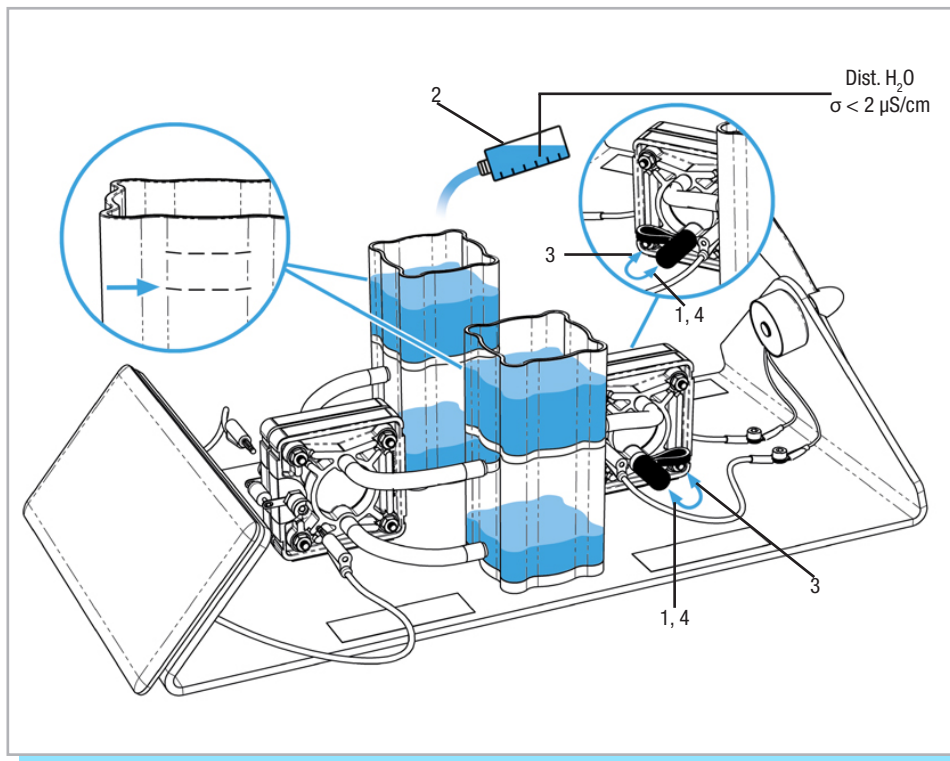

Fig. 4: Filling
- 2. Fill both gas storage tanks up to the lower fill level marking with distilled water ($\sigma < 2 \mu\text{S/cm}$) as shown in Figure 4.